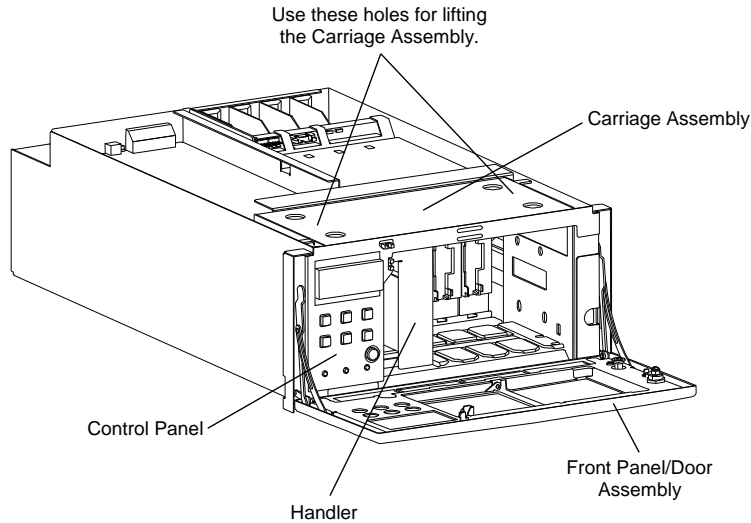

Figure 7-4 Carriage Assembly shown with Front Panel/Door Top Cover Open
Before replacing the Carriage Assembly, open the library's Top Cover and read the RLS Carriage Assembly Label located on the top of the Carriage Assembly to determine which model of Carriage Assembly is installed in the library. See Figure 7-4. The label will read 510180-xx-x. If the part number does not match those listed above, please contact Qualstar Technical Support to obtain the correct replacement Carriage Assembly.
3. Place your thumb and second finger of each hand into the pair of grip holes on the left and right sides of the Carriage Assembly top plate. If the slider is blocking a pair of holes, gently push it out of the way. Lower the Carriage Assembly into the chassis. See Figure 7-4.